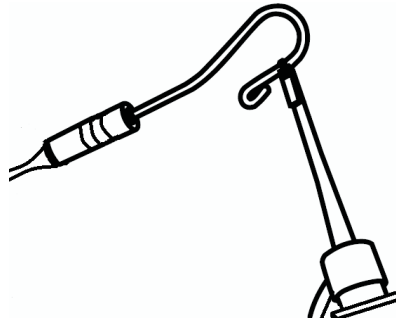

Fig. 3.2
3.1.4 Make the lip hook touch the bent wire of the file clip (as showed in Fig. 3.2), the screen will be displayed " — — " , (as showed in Fig. 3.3 c), otherwise, it means the file clip or the measuring wire is damaged, should be replaced.